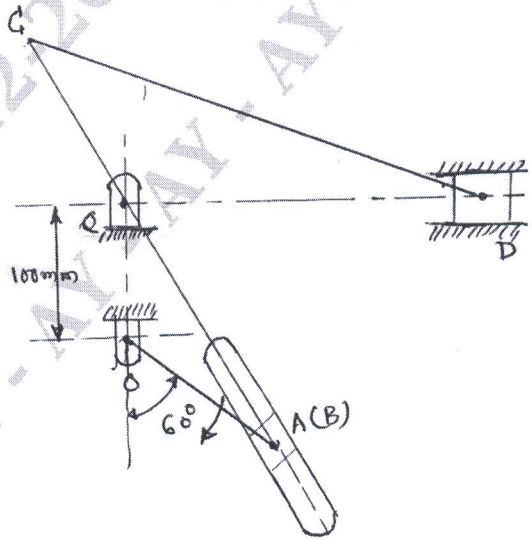

Fig. Q4
- 4 Fig. Q4 shows a quick return mechanism in which the driving crank OA rotates at 120 rpm in a clockwise direction. For the position shown, determine the magnitude and direction of,